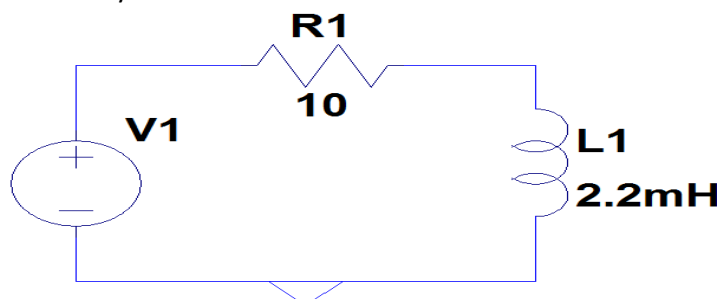

Figure 3- 4:simple RL circuit.
1. Create the simple RC circuit as shown in Fig.3 on a LT Spice.